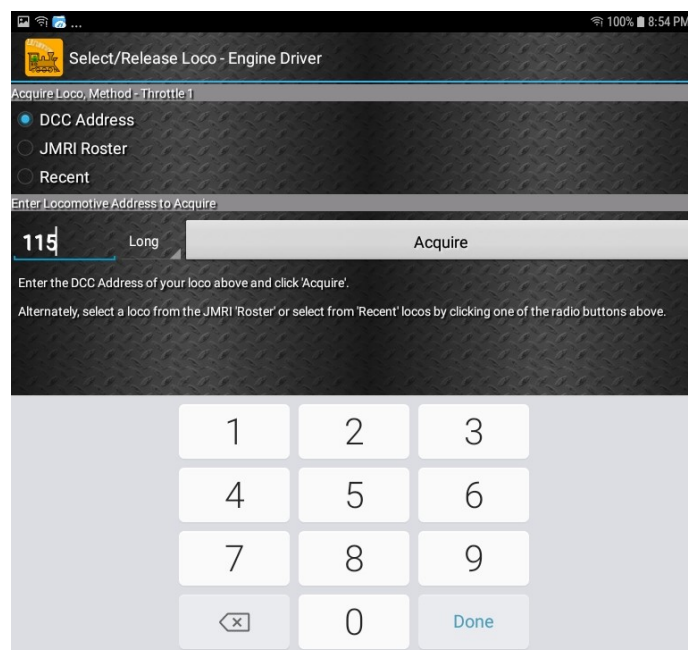

Figure 22 Selecting a locomotive by typing its DCC Address
- (12) The Throttle screen should then appear, ready to select a loco and drive. Tap the Select button, check the “DCC Address” option and type the address of your locomotive either short or long as in Figure 22. Tap Acquire.